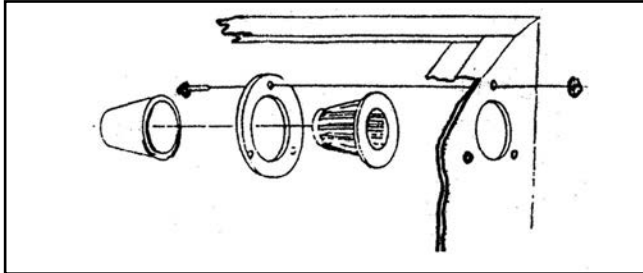

Figure 1. Filter installation.
1. Install the filter assembly with the screws and nuts (see **Figure 1**).